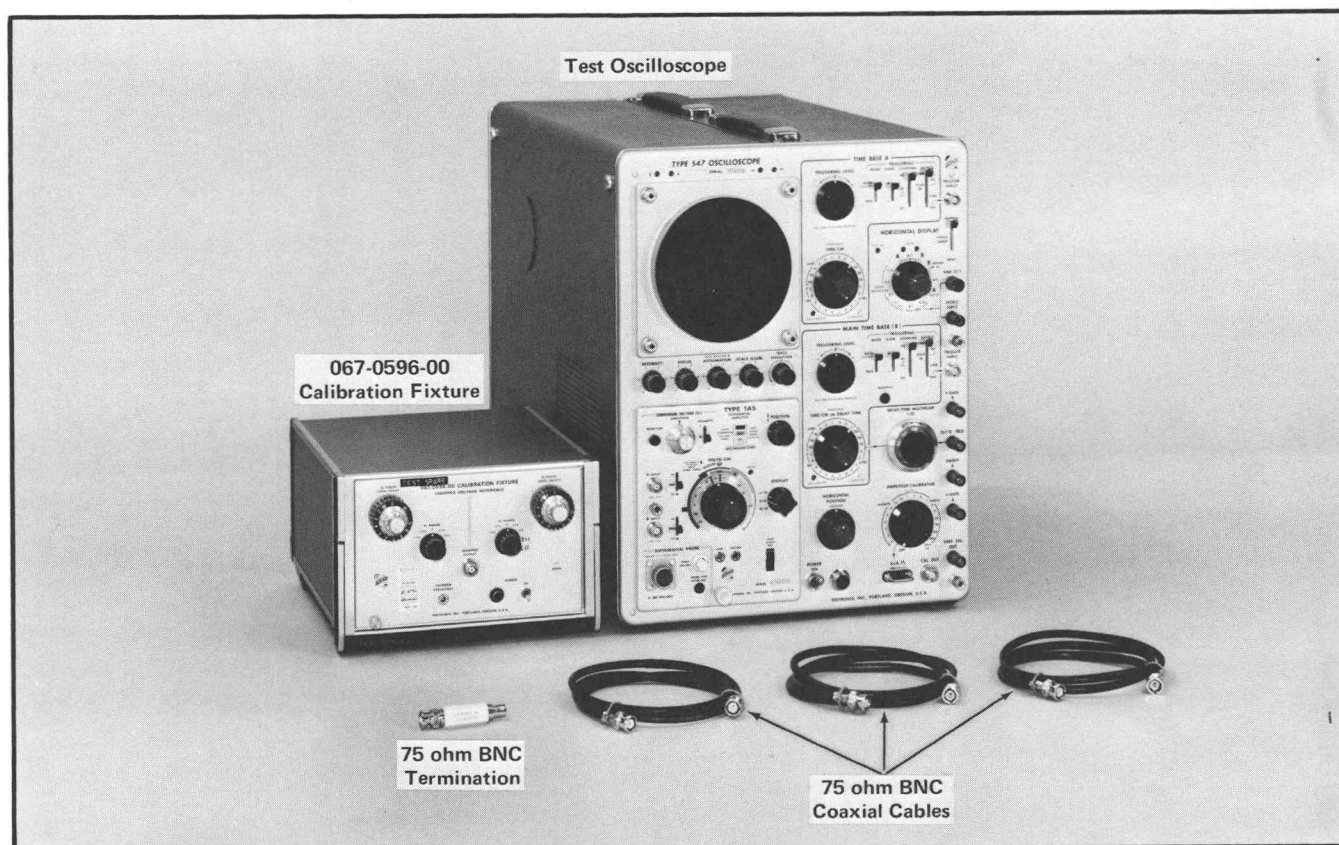

Fig. 5-6. Test equipment required for steps 6 through 11.
①
a. Test equipment is shown in Fig. 5-6. To determine the Type 142 and test oscilloscope control settings, first refer to the partial list that precedes this step and then, for the remaining controls, refer to the list that follows Fig. 5-1.